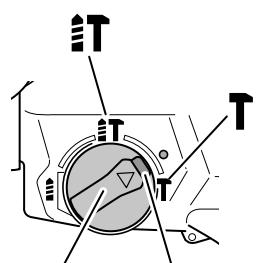

Fig. 20 Change lever Push button
(1) Mount the bull point or cold chisel.
(2) Press the push button and set the change lever to middle of **IT** mark and **T** mark (Fig. 20).